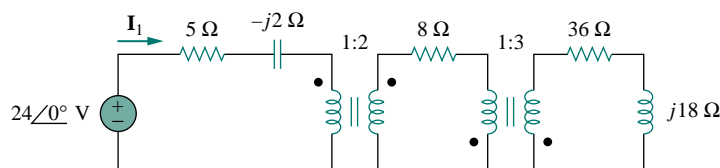

Figure 13.102 For Prob. 13.35.
- 13.35** Use the concept of reflected impedance to find the input impedance and current I_1 in Fig. 13.102 below.